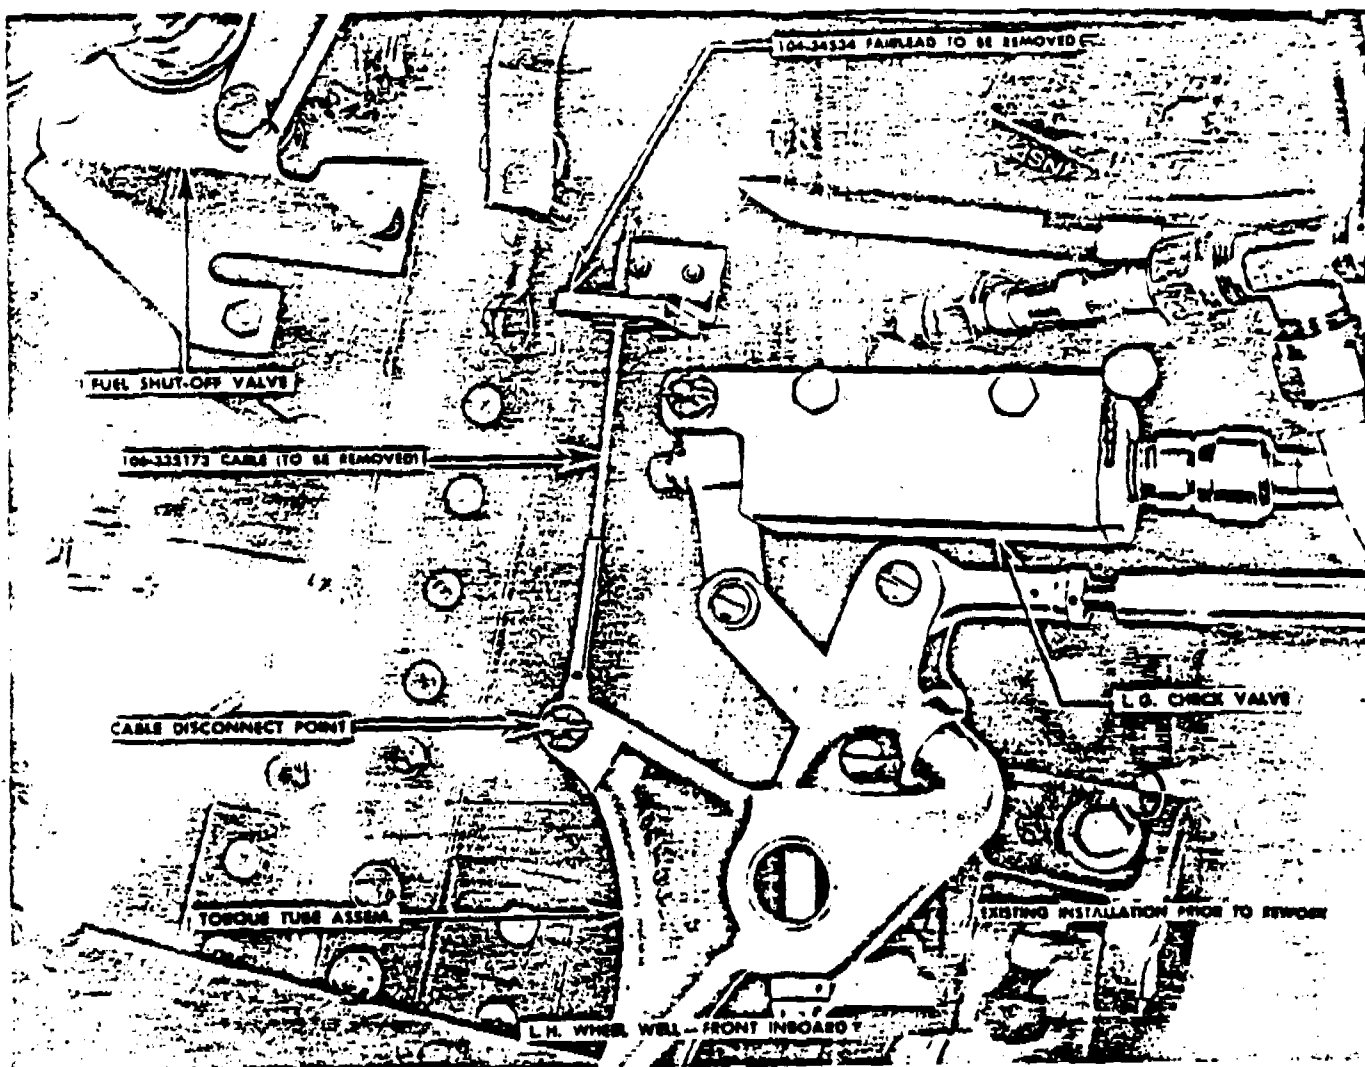

Figure 1 - Existing Cable Installation
the torque tube assembly and pull through the center rib into the right wheel well. (See figure 1.)
g. Remove the fair-lead, part No. 104-34534 (with 109-33367 clip attached), on station O (center) rib adjacent to the landing-gear check valve, by drilling out the two attaching rivets. Some airplanes will have this fair-lead attached with screws. (See figure 1.)